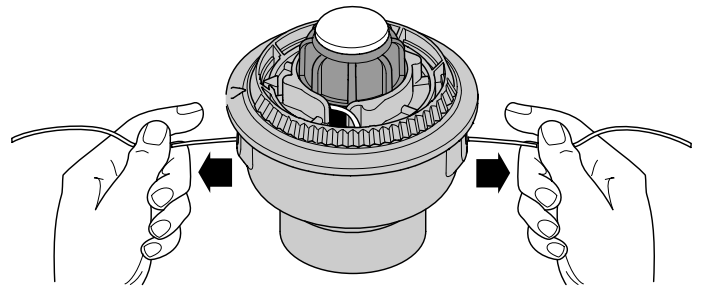

Fig. 19
9. If winding the line becomes difficult or if the line jams, pull the ends of the line from the spool (Fig. 19). Continue winding the inner reel counterclockwise.
4. Hold the inner reel in place and install the bump knob, spring and foam seal. Press down and turn the bump knob clockwise. Grasp the ends and pull firmly to release the line from the holding slots in the inner reel (Fig. 19).
If the SpeedSpool® does not release line correctly, pull the ends of the line firmly from the spool (Fig. 19). If this does not release the line, follow the *Cleaning the SpeedSpool®* instructions.